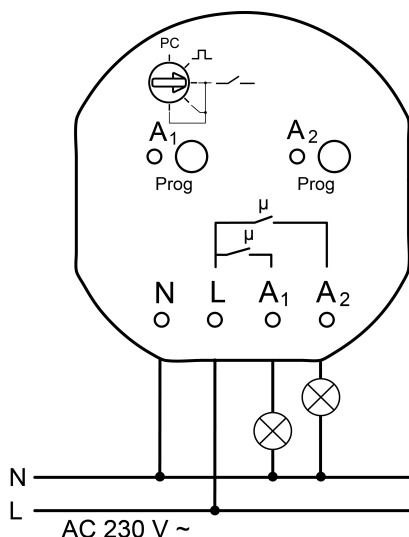

Figure 2: Connection example
- Connect loads as shown in the wiring example (figure 2).